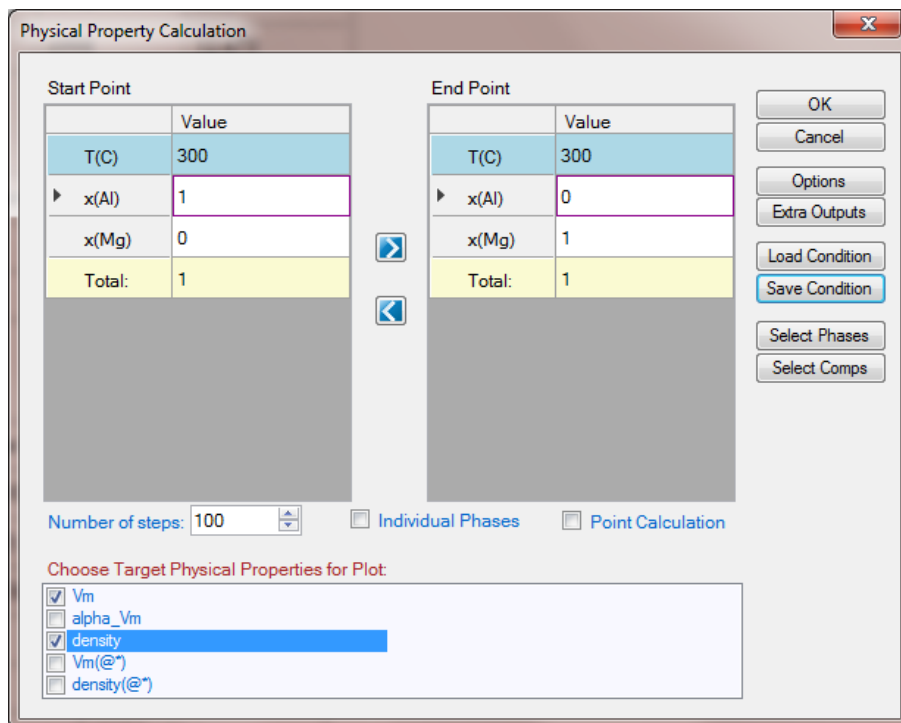

Figure 1.12.2: Setup calculation of molar volume and density from pure Al to pure Mg at 300°C
- Set Calculation Condition as shown in Figure 1.12.2. The property selected is Vm (molar volume) and density